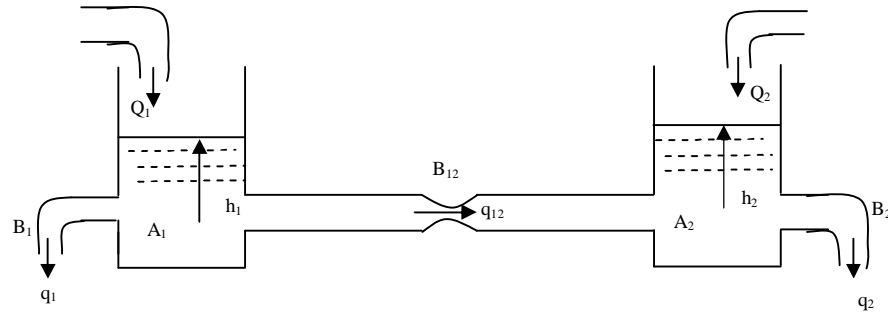

fig.1
6. Consider the hydraulic system shown in fig.1. Derive state space equations for the system with water levels h_1 and h_2 in the two tanks as the state variables x_1 and x_2 respectively and discharges q_1 , q_{12} and q_2 as the outputs y_1 , y_2 and y_3 respectively.